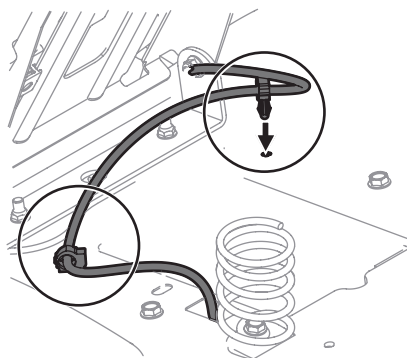

Figure 3
5. Using the harness clip attached to the harness, secure the excess wire to the fender by snapping the harness clips in place as shown in Figure 3.